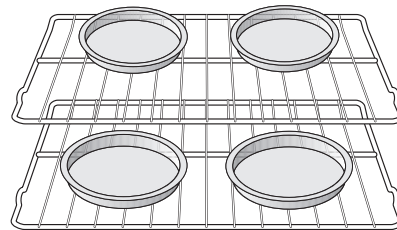
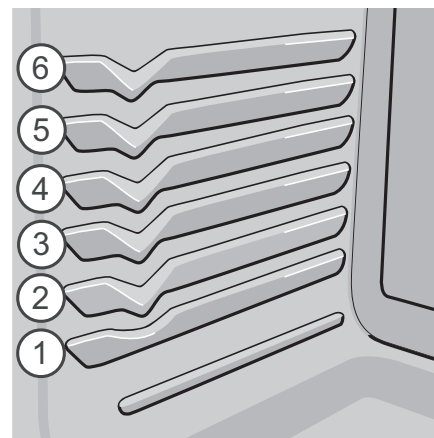

Figure 18: Convection baking on multiple levels/racks
Figure 19: Oven rack positions
- For batter and dough-based baked goods such as cakes, pastries, and breads, use the convection bake function for best results. Place the pans as shown in Figure 18.
- For best results when baking cakes or cookies using two oven racks, place racks in positions 1 and 5 (Figure 19) and place pans as shown in Figure 18. Use flat rack in position 5 and glide rack in position 1.
- When baking using two oven racks, position bakeware as shown in Figure 18. Allow at least 2 inches (5 cm) of space between bakeware for proper air circulation.